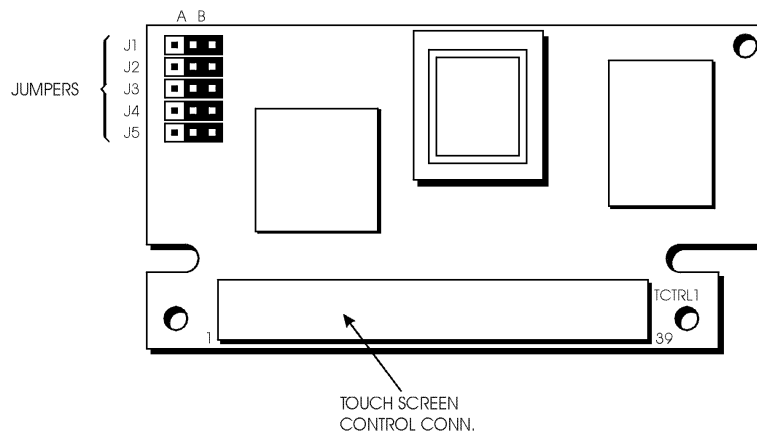

Figure 3-19. Touchscreen Controller Card
2. Remove the touchscreen controller card. Figure 3-19 shows the touchscreen controller card and its jumper set.